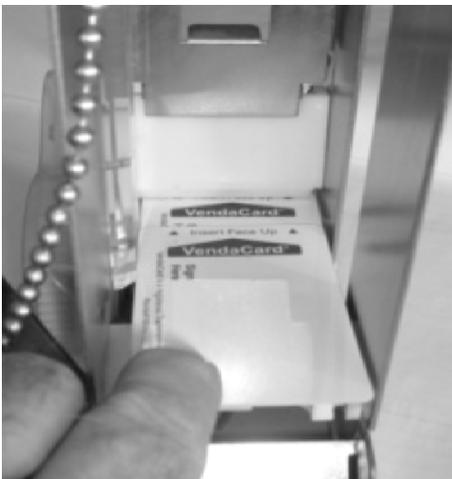

Figure 6
1. Slide ONE card forward under the gate tip, until it will not go any farther forward. (See Figure 6)
2. Raise and lower the white gate (Figure 6) until the gate tip barely presses on the top of card. (See Figure 6)
3. Gently slide a 2nd card (see Figure 6) over 1st card to gate tip area to ensure that it will not go under the gate tip.